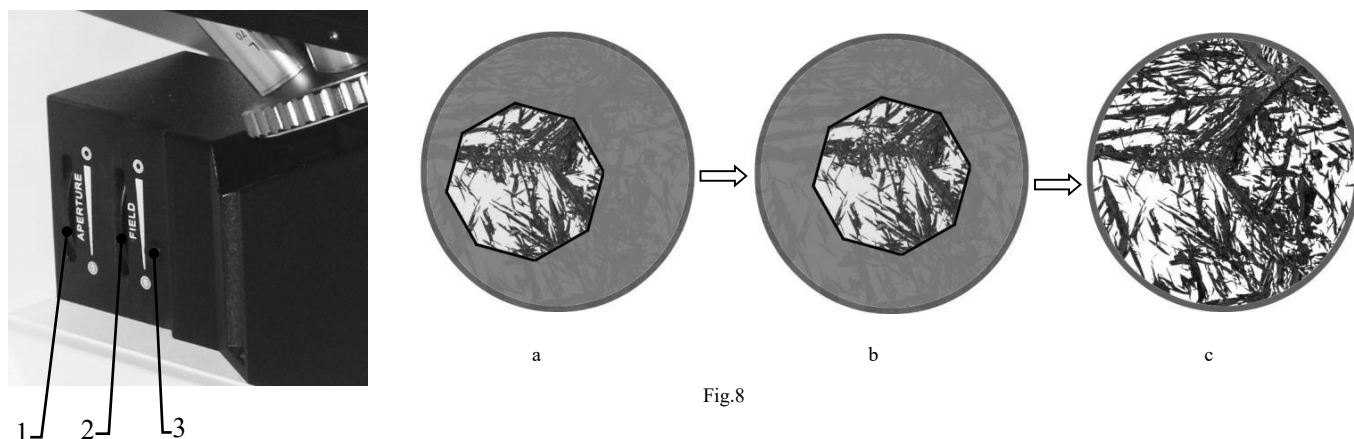

Fig.8
- (1) Turn the 10X plan objective into optical path.
- (2) Open the aperture diaphragm 2, and close the field diaphragm 1, a light spot will be seen in the field of view, as shown in Fig.8-a.
- (3) If the light spot deviates from the center of the field of view, as shown in Fig.8-a, take out the plastic dustproof caps 3 and adjust the centering adjustment screw with two inner hexagonal wrench to make the field diaphragm center superposition with the field of view center, as shown Fig.8-b, then cover the adjusting hole again.
- (4) Open the field diaphragm, so that the observed specimen image fills field, as shown in Fig.8-c.